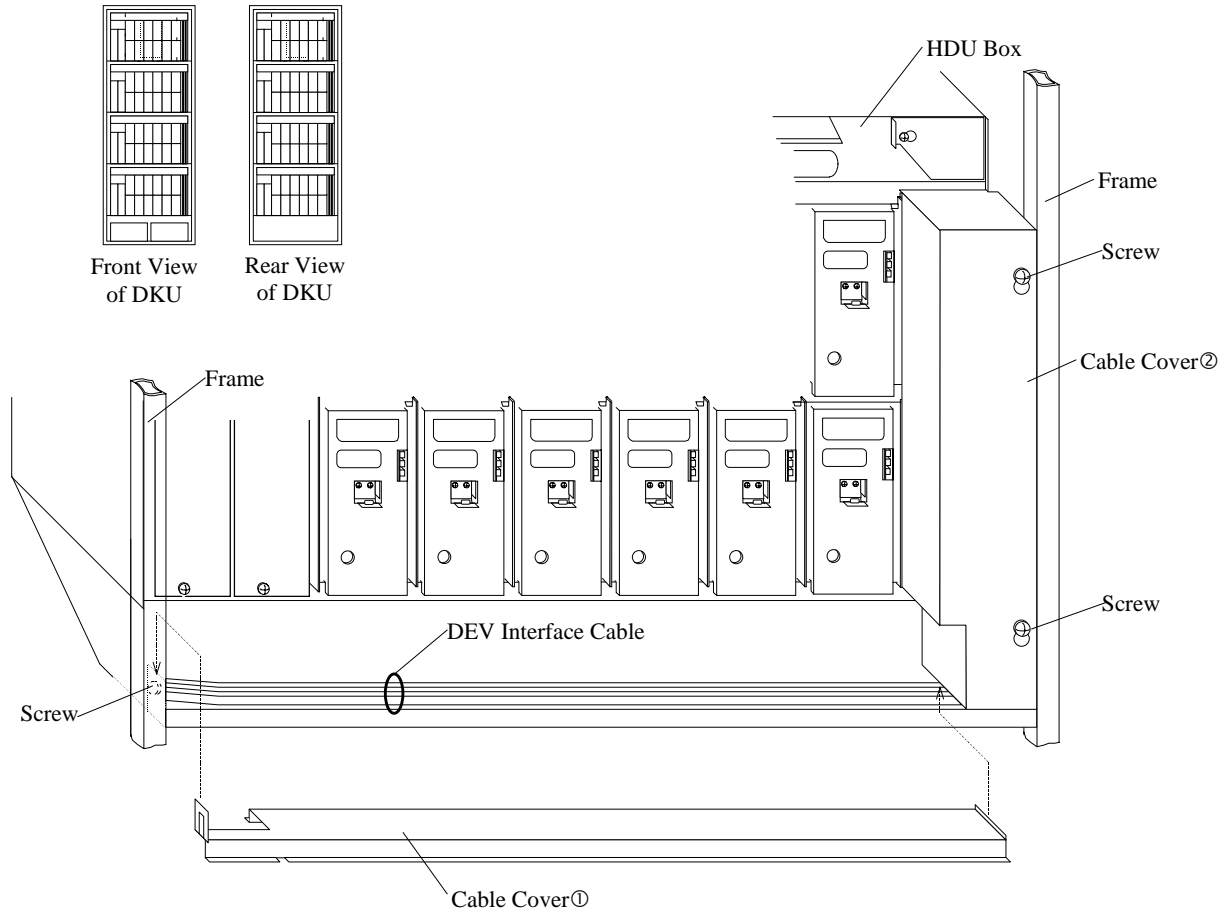

Fig. FT1-1 Removal of Cable Covers
8. Attach the cable covers ① and ② with the screws. Refer to Fig. FT1-1.